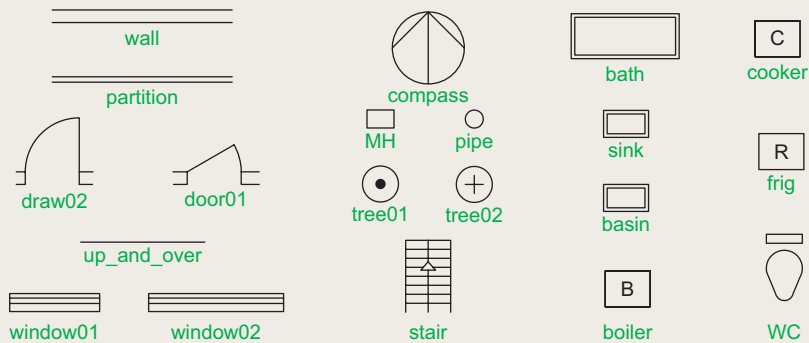

Fig. 9.21 Exercise 1
1. Construct the building symbols Fig. 9.21 in a drawing saved as **symbols.dwg**. Then using the **DesignCenter** construct a building drawing of the first floor of the house you are living in making use of the symbols. Do not bother too much about dimensions because this exercise is designed to practise using the idea of making blocks and using the **DesignCenter**.